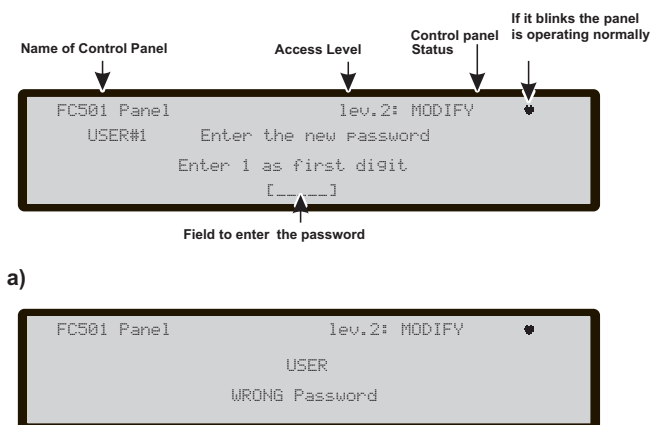

Figure 32 Display: Modify User password
Use the **2 key** to Modify the User Password (see Figure 32).
Select the option MODIFY, the display will show Figure 32; in this phase:
*If a wrong or empty password is entered the second page in Figure 32, will be displayed for 5s.*